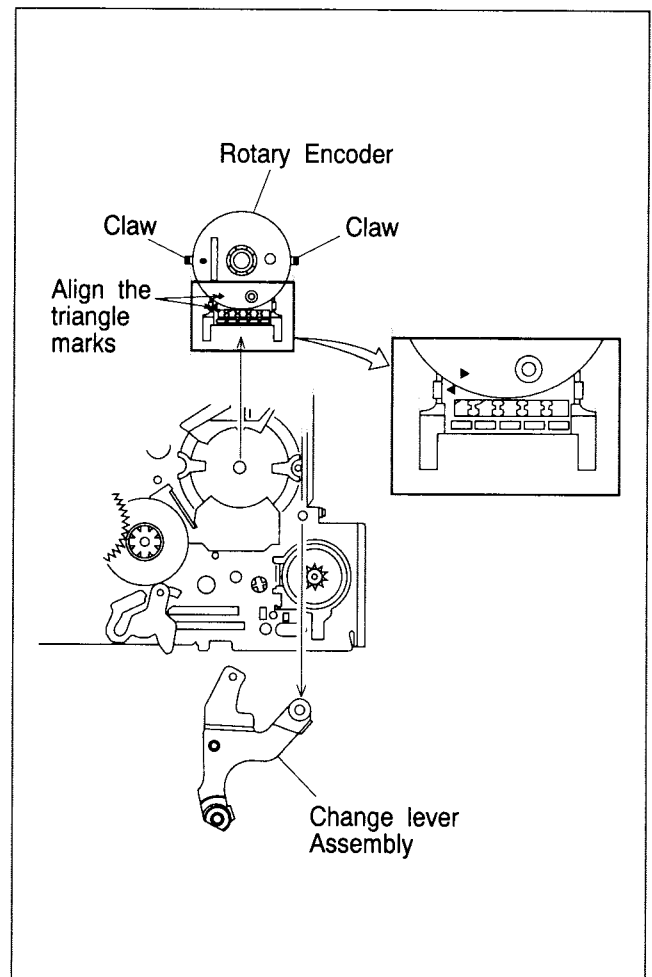

Fig. 2-5-18
- (1) Remove the change lever.
- (2) Disengage 2 claws and remove the rotary encoder.
- (3) When installing the rotary encoder, align the triangle mark as indicated in Fig. 2-5-18.